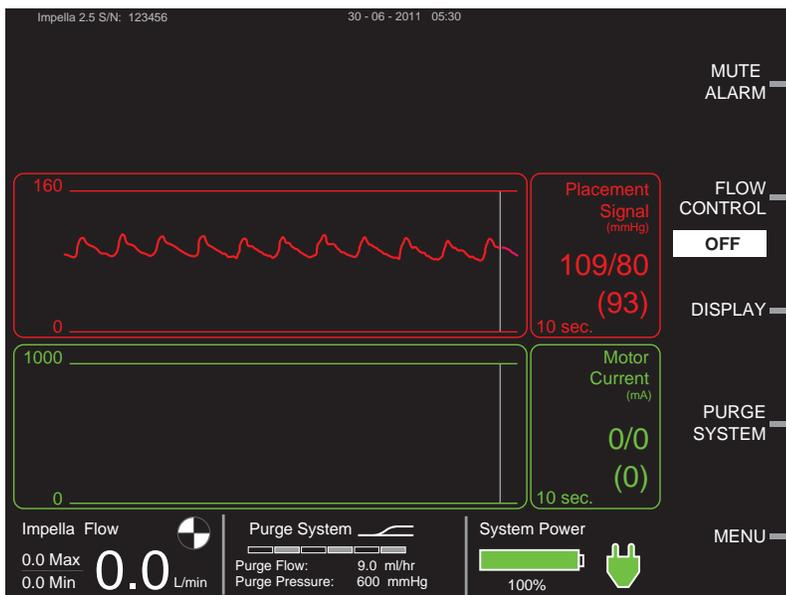

Figure 5.19 Aortic Waveform on Placement Signal Screen
13. Confirm position with fluoroscopy and confirm that an aortic waveform (see Figure 5.19) is displayed on the Automated Impella® Controller.